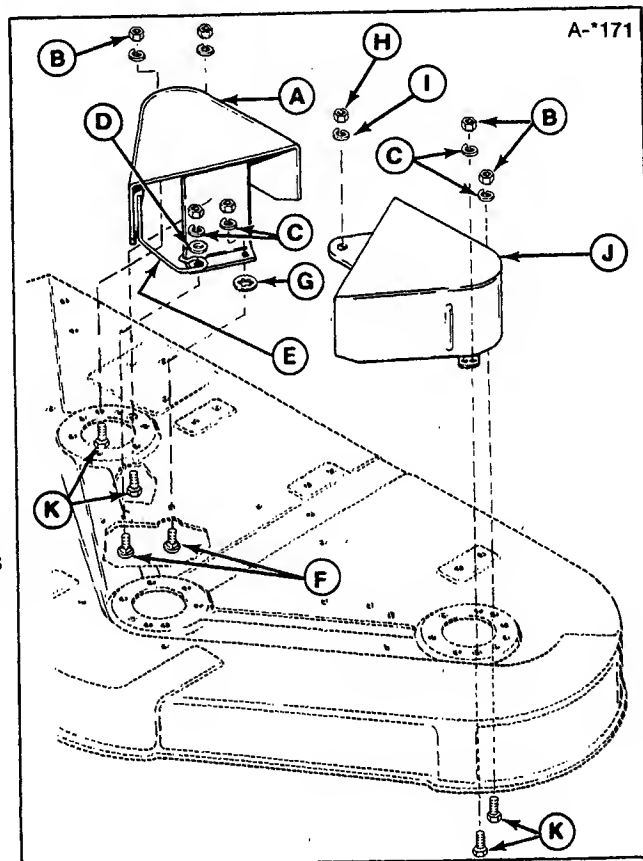

Figure 26. Arbor Covers
4. **42" mower only.** Remove the right arbor cover (A, figure 26) by removing mounting hardware (B, C, D) on capscrews (F, K). Remove the nut (H) and lockwasher (I) which secure left arbor cover to the idler pulley. Remove the attaching hardware which secure the rear of the left arbor cover.
Make sure that right-hand arbor belt stop (E) is flush with arbor cover as shown in figure 26.
9. Reinstall the arbor covers as shown in figure 26.